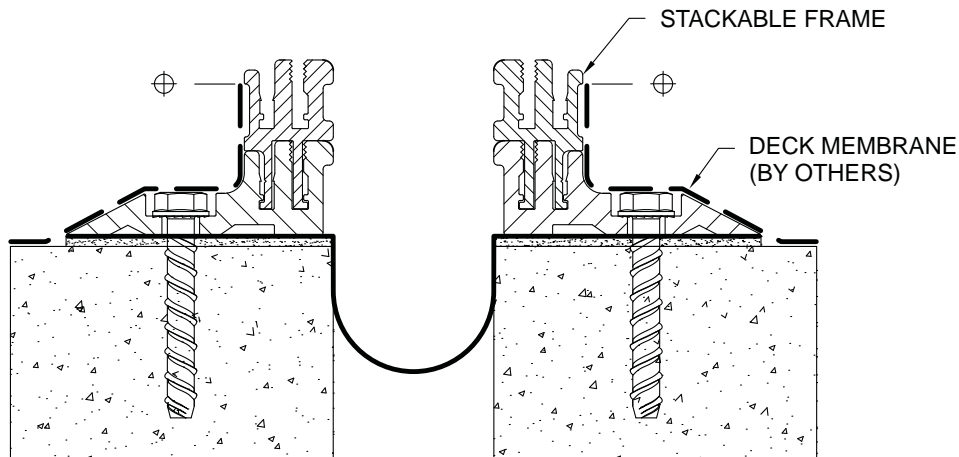

Figure 3
11. Lap and adhere Deck Membrane (by others) to Base per Fig 3.